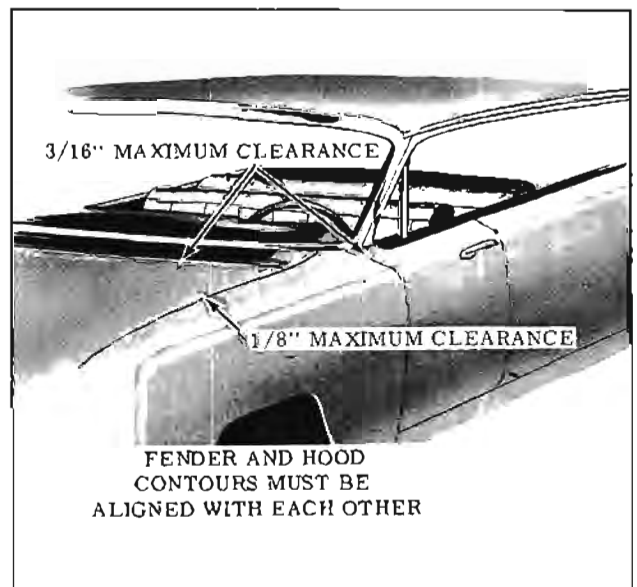

Fig. 12-6 Sheet Metal Clearances
2. Shift hood until clearances shown in Fig. 12-6 are obtained.
bolts and rubber bumpers, located on the fender tie bar, should be adjusted. The pilot bolts position the hood as it is lowered. Vertical adjustment can be made by loosening the pilot bolt lock nuts and adjusting the threaded pilot bolts up or down for proper engagement with the latch assemblies. Lateral and fore and aft adjustment can be made by loosening the lock nuts on the pilot bolts and moving the pilots right or left, or fore or aft. Front hood to fender clearances are 1/8" maximum. (Fig. 12-6)